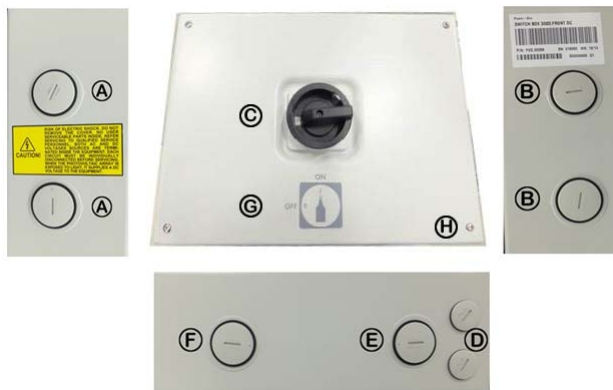

Figure 3-3: DC switchbox with front switch
- Refer to Figure 3-3 and Figure 3-4 to locate the designated entry locations for the conduits from the DC array and to the AC grid. Make sure the appropriate knockouts are used in order to maintain required spacing between wiring groups.
AC grid wiring is connected through the inverter switchbox. Run an approved raceway between inverter and external AC disconnect switch. Make conduit entry through openings (B or E) shown in Figure 3-3 and Figure 3-4. Connect AC wiring to switch box terminal block (J) and the main AC ground cable to switchbox terminal block (K).